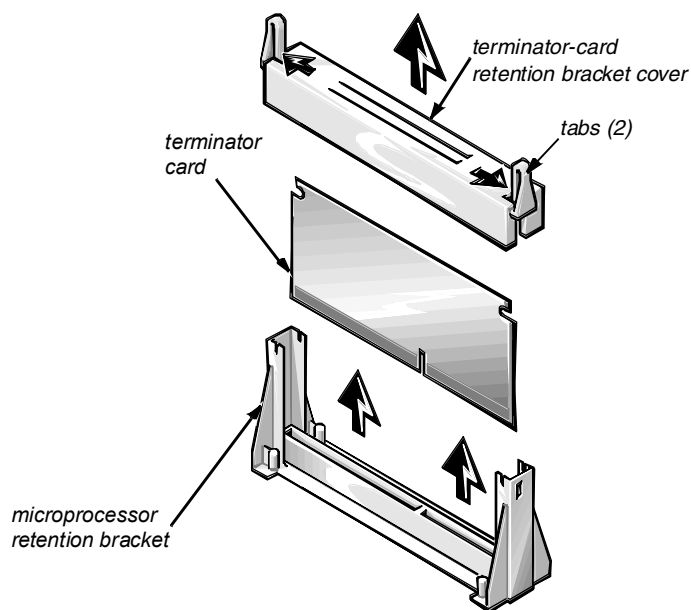

Figure 2. Removing a Terminator Card
4. If you are adding a secondary microprocessor, remove the terminator card from the second microprocessor connector (see Figure 2).